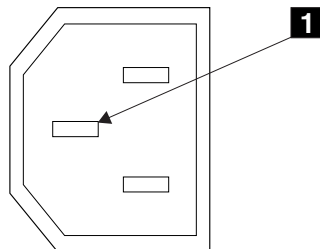

Figure 2. Ground pin
6. Check for continuity between the frame of the SAN Volume Controller and the ground pin (**1** in Figure 2) of each main power connector.